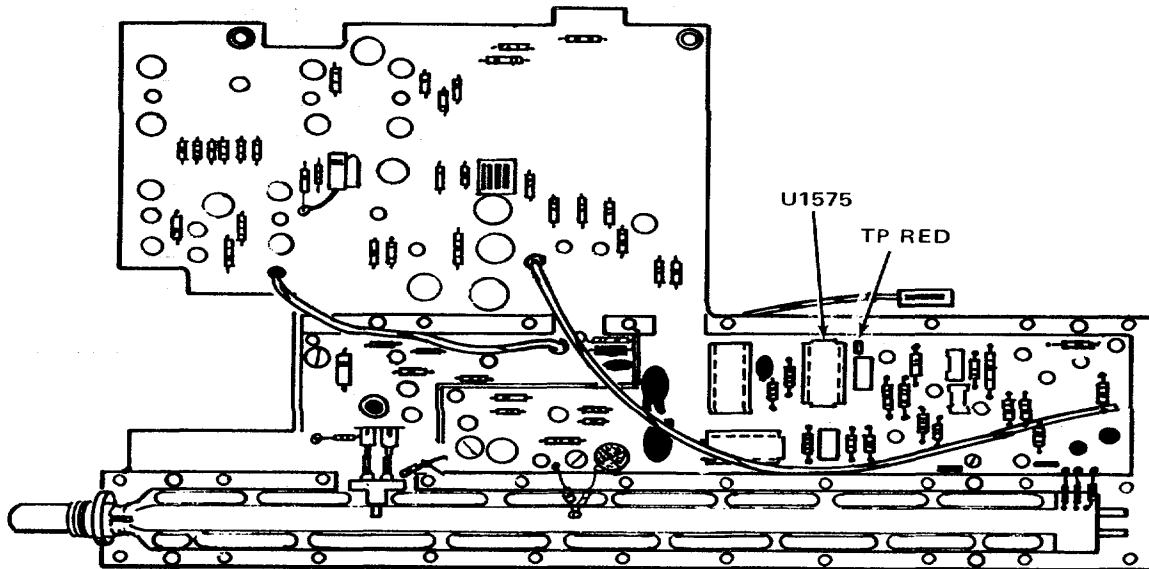

Figure 4-6. Main Board Test Points.
17. Move the test lead to connector P65 Pin 6 (see Fig. 4-6) and check that the voltmeter reads +100 V (+20 V, -5 V).
(b). Adjust-INTENSITY LIMIT (R4222) for 100 mVdc reading at test point TP4243 to gnd (option 1: 60 mV). The adjustment is made through the hole near Q6427 on the power supply board (see Fig. 4-6).
Turn the instrument POWER off. Turn the instrument upside down and remove the shield that covers the pulser/sampler circuitry (remove 12 screws). Remove U1575 from its socket. In the following steps, instructions are given on how to provide an external trigger to the 1502 (see Fig. 4-6).